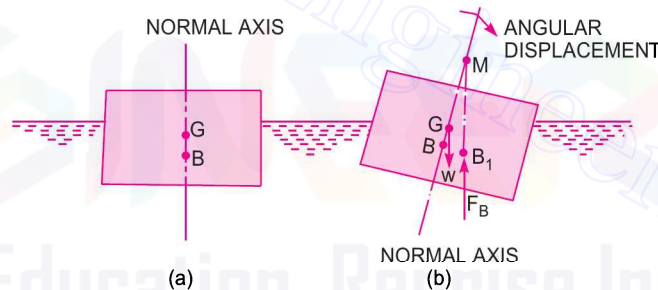

Fig. 4.5 Meta-centre
Consider a body floating in a liquid as shown in Fig. 4.5 (a). Let the body is in equilibrium and  $G$  is the centre of gravity and  $B$  the centre of buoyancy. For equilibrium, both the points lie on the normal axis, which is vertical.
Let the body is given a small angular displacement in the clockwise direction as shown in Fig. 4.5 (b). The centre of buoyancy, which is the centre of gravity of the displaced liquid or centre of gravity of the portion of the body sub-merged in liquid, will now be shifted towards right from the normal axis. Let it is at  $B_1$  as shown in Fig. 4.5 (b). The line of action of the force of buoyancy in this new position, will intersect the normal axis of the body at some point say  $M$ . This point  $M$  is called **Meta-centre**.
**Couple Due to Wedges.** Consider towards the right of the axis a small strip of thickness  $dx$  at a distance  $x$  from  $O$  as shown in Fig. 4.5 (b). The height of strip  $x \times \angle BOB' = x \times \theta$ .
But from Fig. 4.5 (c) it is clear that  $2 \int x^2 dA$  is the second moment of area of the plan of the body at water surface about the axis  $Y-Y$ . Therefore